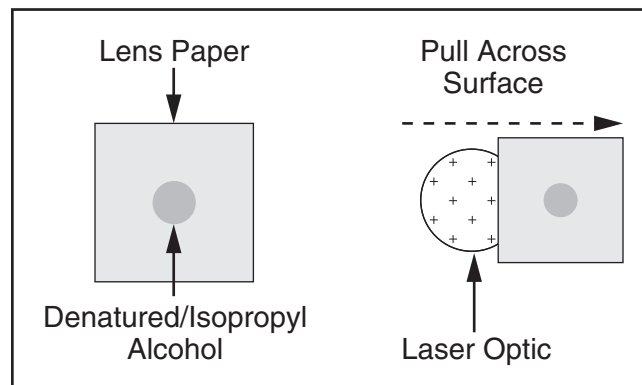

Figure 71. Pulling lens paper across surface.
4. Grab edge of paper and slowly pull across lens/mirror surface (see **Figure 71**). Allow surface to air dry.